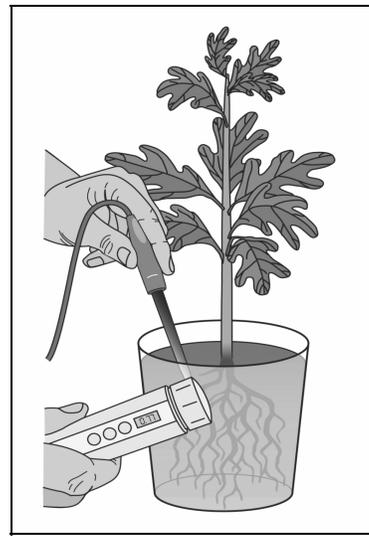

Figure 6 - The newest EC meters have probes small enough that you can take measurements directly from soil or growing media.
**Direct Sensor.** This last EC monitoring technique has only been possible within the last decade or so because of new instruments such as the Field Scout® Soil & Water EC Meter. These new EC meters have probes small enough that they can be inserted directly into growing media (Figure 6). The obvious advantage of the direct sensor procedure is that readings can be taken quickly and non-destructively. Just be sure that the probe has good contact into the growing medium, and always test at the same media moisture content. The recommendation is to monitor about 1 hour after irrigation or fertiligation. Operational testing with this procedure has shown that it